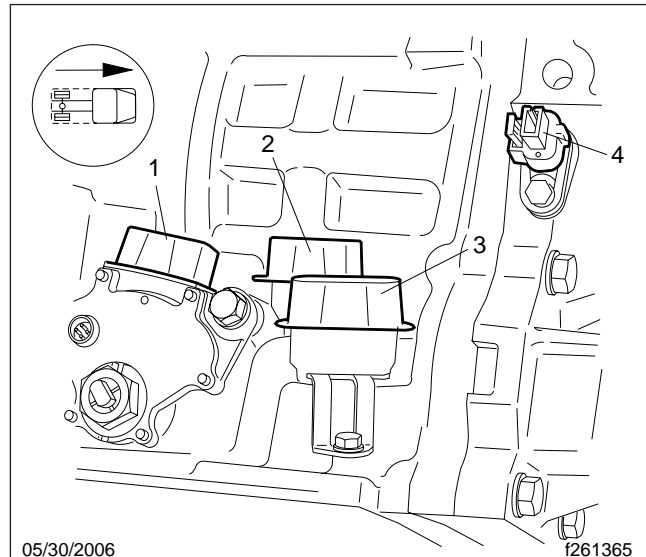

Fig. 2, Electrical Harness Connectors, LH Cluster
8. Remove the electrical harness connectors, including those at the following locations. See Fig. 2.